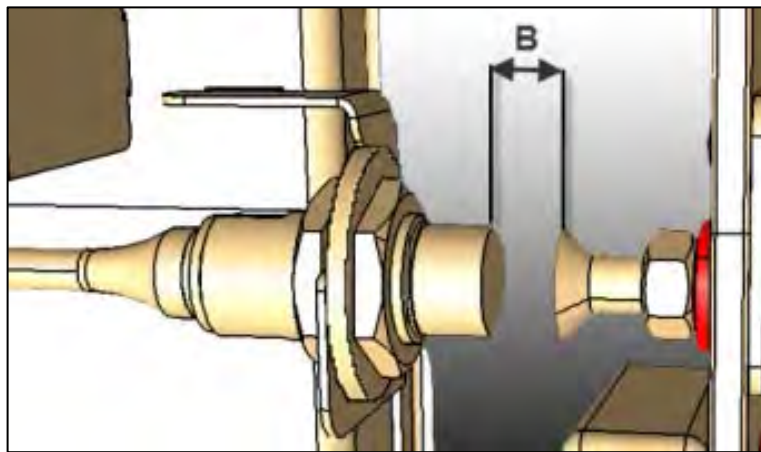

Figure 19
19. Check gap between proximity switch and cap screw to **$5/16" \pm 1/32"$** (8mm $\pm$ 1mm) (B) (Figure 19)